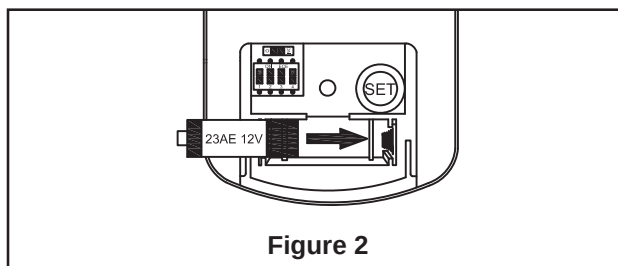

Figure 2
2. To make the fan operational, install 23A/12V battery (included) into the hand-held remote transmitter (If not used for long periods of time, remove the battery to prevent damage to the transmitter). With fan power off, arrange code switches to the desired code setting. Then, follow the remote code setting process. Store the remote away from excessive heat or humidity. (Figure 2)
- ☐ 2. Unplug the signal wire and 9-pin connector, then replace the old receiver with the new receiver. (Figure 2)